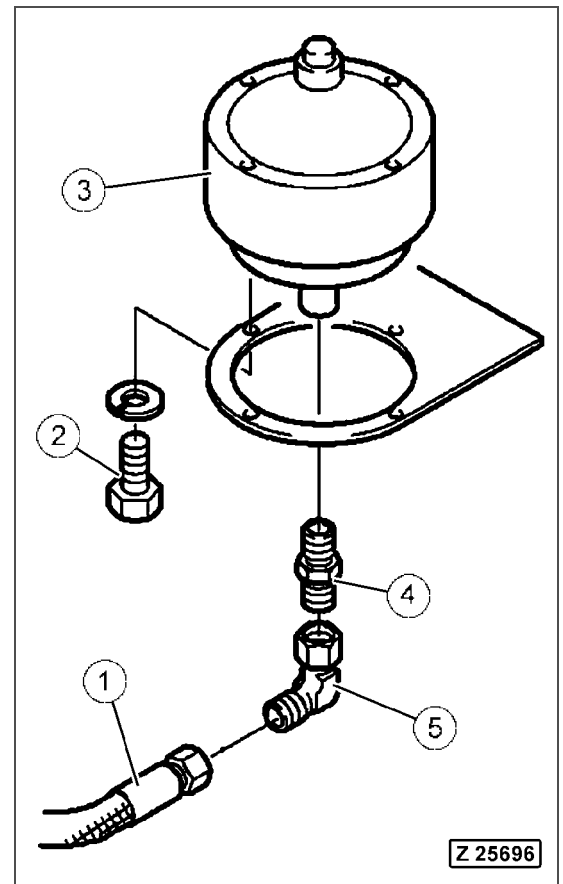

Fig. 4-30
- Disconnect the pressure hose (Fig. 4-30, Pos. 1).
- Remove four bolts (Fig. 4-30, Pos. 2) and remove the pressure accumulator (Fig. 4-30, Pos. 3).
- Remove socket (Fig. 4-30, Pos. 4) and union (Fig. 4-30, Pos. 5).